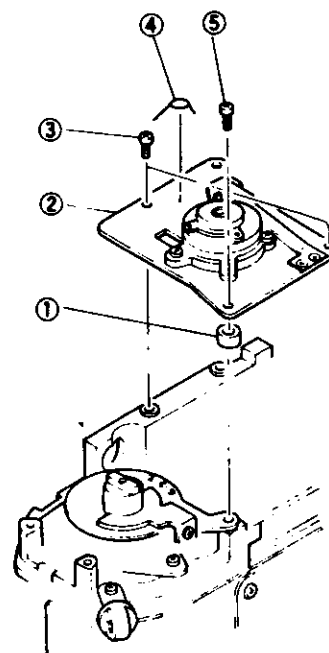

Fig. 2
3. SD base plate assy (see Fig. 2)